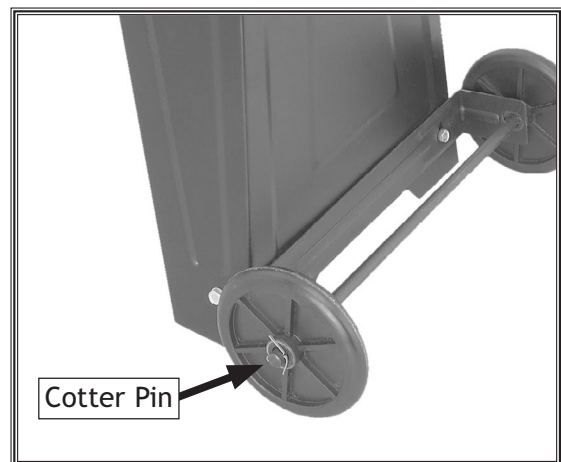

Figure 9. Wheel installed with cotter pin.
5. Slide the wheels onto the axle on the outside of the mounting brackets, and secure them with the cotter pins, as shown in **Figure 9**.